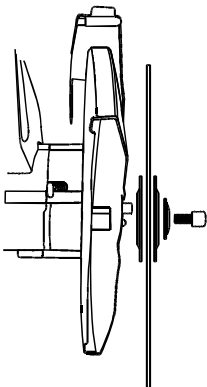

Figure 11
- Remove the arbor cap screw, the small outer washer, the large outer washer, the cut off disc and large inner washer from the arbor. (Figure 11)